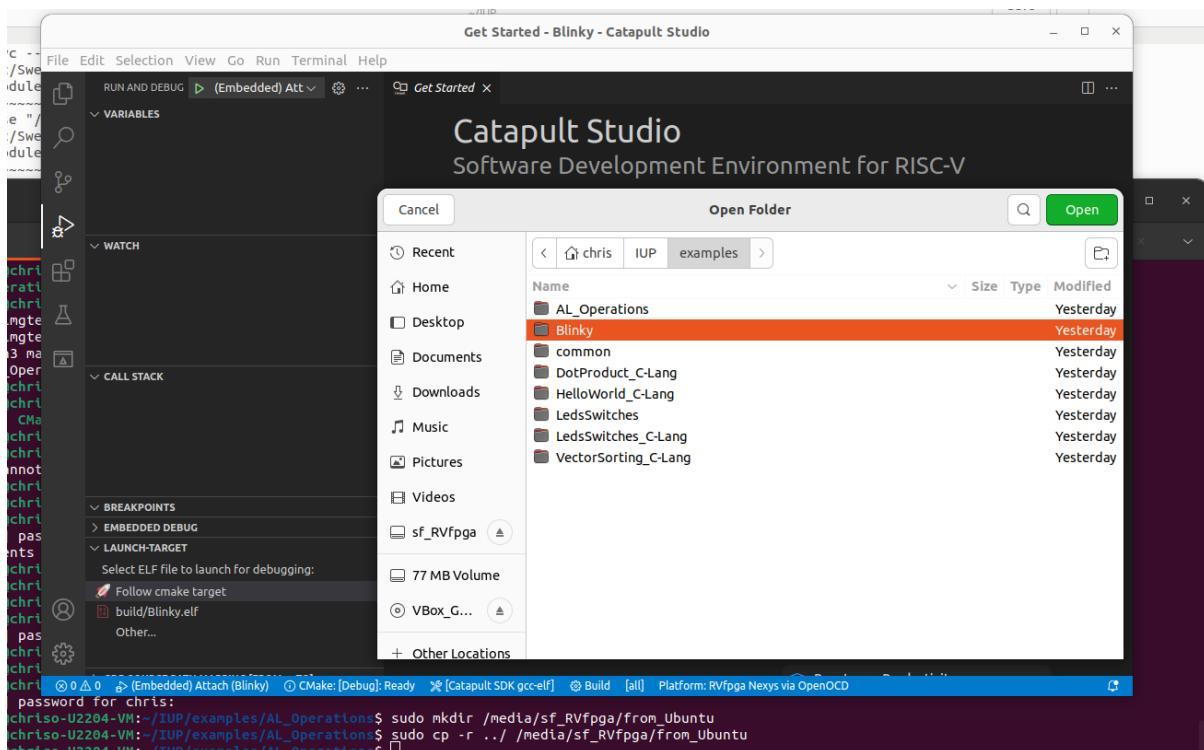

Figure 42. Blinky program folder
3. Select directory *Blinky* and click OK (Figure 42).